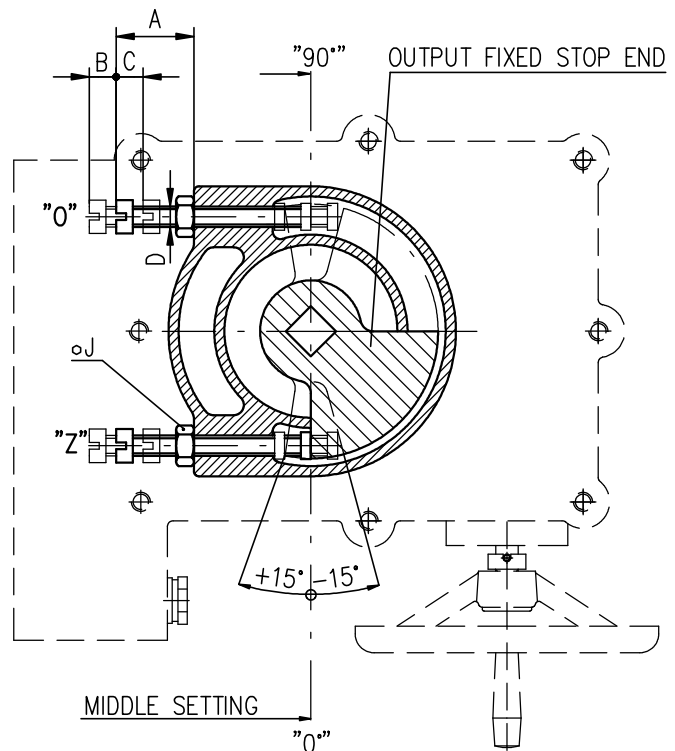

Fig.8
#### 4.6 Resetting of operation angle and setting of stop end screws (Fig. 8)
The valve operation angle position is defined with the stop end screws which allow to change the position from the position "Z" (closed - 0°) and from the position "O" (open - 60°, 90°, 120°, 160°) by a value of ±15°. For better understanding see Fig. 8 where the output shaft is in the position "Z" for the operation angle of 90°. The stop end screws serve as mechanical limits of the operation angle position at manual control or as end travel points for torque switching-off, else the mechanical gearing could be damaged.
**4.6.2 Setting of stop end screws at torque switching-off (Fig.8)**